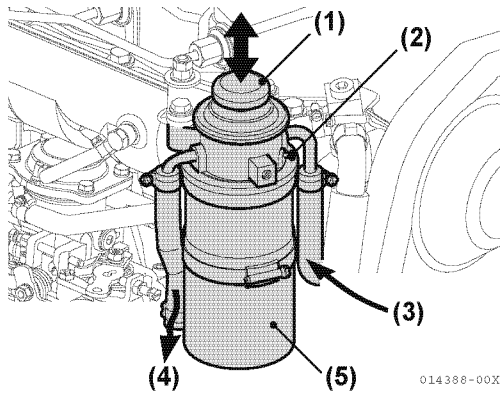

Figure 3-51
3. Loosen the air bleeding bolt (Figure 3-51, (2)) of the fuel filter by turning it two or three turns.
4. Feed fuel with the fuel feed pump by moving the lever on the feed pump (Figure 3-51, (1)) up and down.